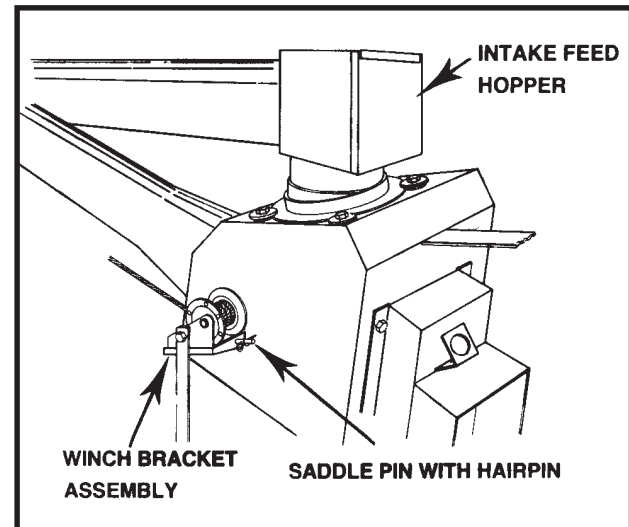

Figure No. 28
3. Install winch and winch bracket assembly to auger boot (opposite to side of hopper operation) with one saddle pin and a hair pin (see **Figure No. 28**).